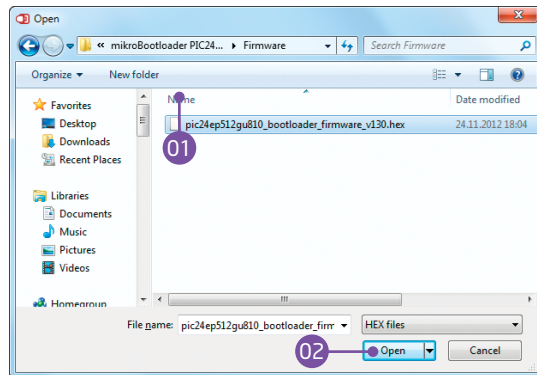

Figure 3-4: Selecting HEX
- 01 Click the **Browse** for HEX button and from a pop-up window (Figure 3.4) choose the .HEX file which will be uploaded to MCU memory.